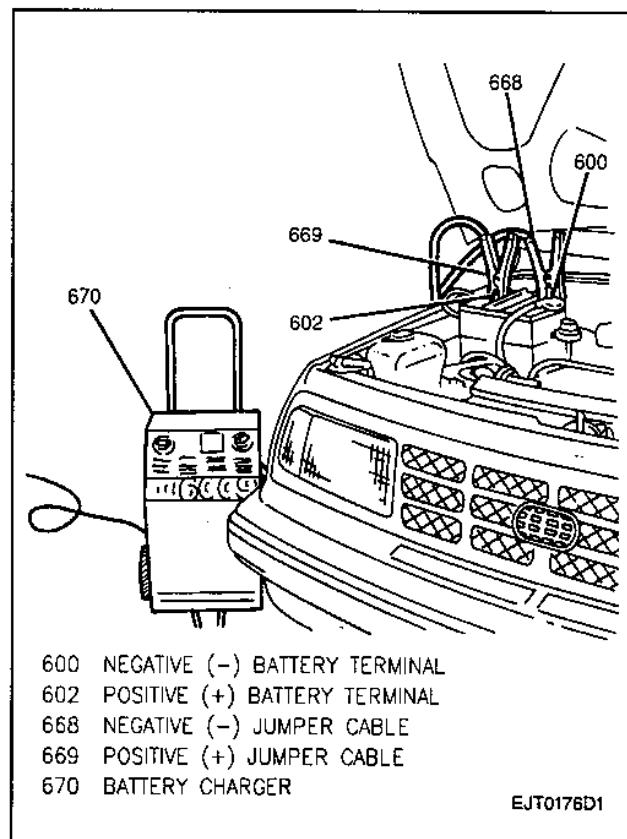

Figure 8—Battery Charging
2. Connect the battery charger cables to the positive (+) and negative (-) battery terminals (Figure 8). Make sure all charger cable-to-battery terminal connections are clean and tight.